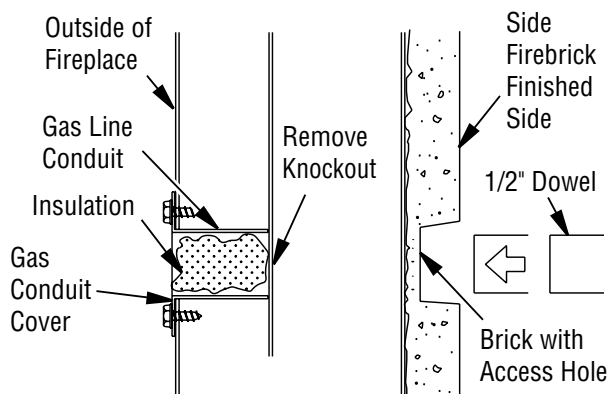

Figure 34 - Gas Line Access
1. Remove knockout indentation on refractory or firebrick wall located above refractory hearth floor. Knockout indentation must be firmly tapped with any solid object such as a 1/2" dowel until it is released. Remove fragmented portions of refractory (see Figure 34).